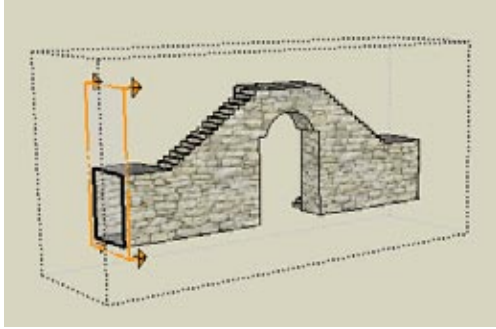

Figure 11-65
10. The next element is the steps. Place a vertical section plane at the side wall (Figure 11-65). The steps are still visible because the plane is facing the wrong way.